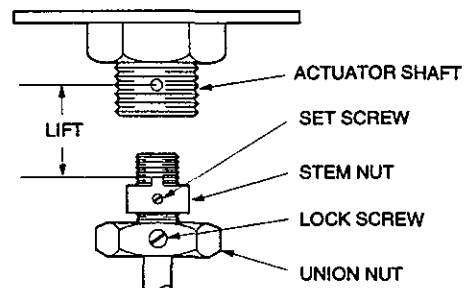

Figure 6. Stem Nut Adjustment
1. For proper seating pressure and correct valve lift, distance from bottom of actuator shaft to top of stem nut must be measured, as shown in Figure 6 (refer to valve installation instructions). The "lift" dimension is measured with valve stem in DOWN position (closed) and actuator shaft in UP (energized) position. [Refer to valve installation instructions for "lift" dimension.]
## STEM NUT ADJUSTMENT (See Figure 6)